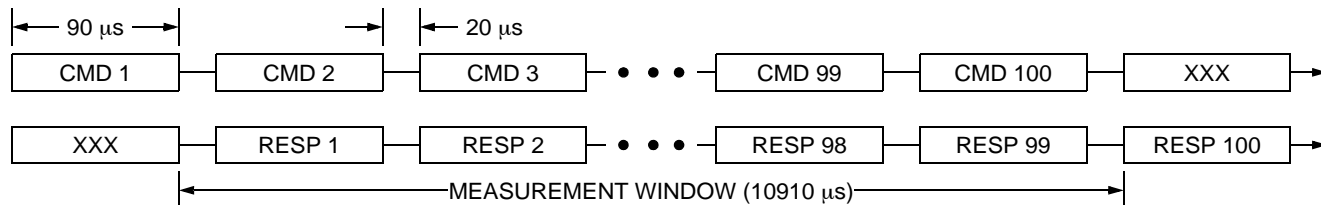

Figure 5-3. Total Noise Measurement Conditions
| 94 | Total Noise (see Figure 5-3) 400 Hz, 4-pole filter, 20g range RMS, 100 samples | η_{RMS} | — | — | 2 | digit | (3) |